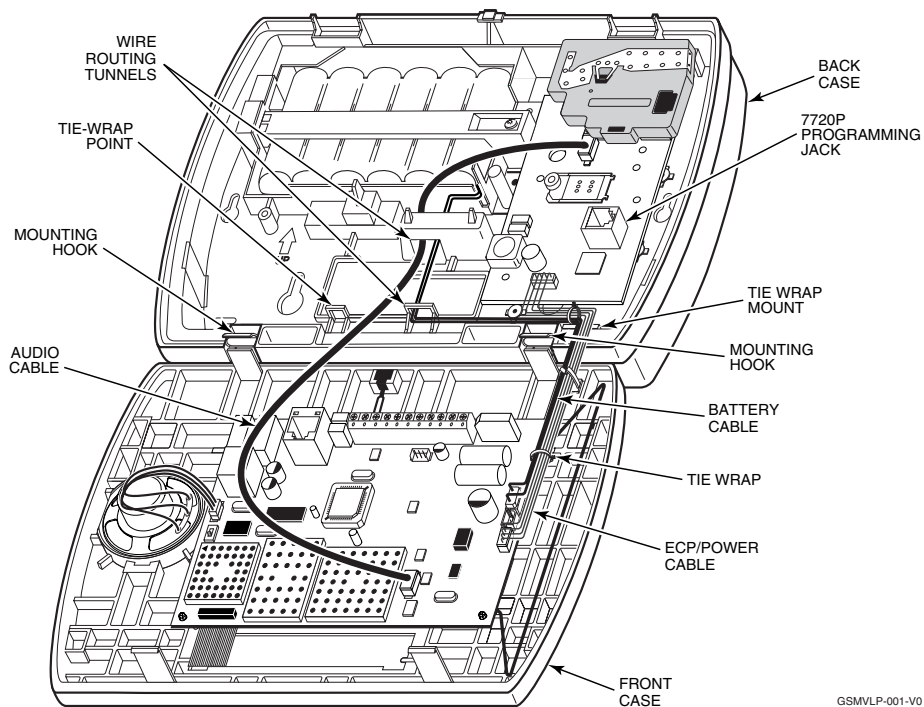

Figure 4 – GSMVLP Wiring Connections and Routing
6. Connect the provided ECP/power cable between the GSMVLP module and the PC board and route the cable as shown in Figure 4. This cable provides DC power and ground for the module and ECP connections.
For best radio performance, the wires, ECP/power cable, battery and shielded audio cables must be routed as shown in Figure 4.
7. Make the wiring connections and install the control in accordance with the appropriate Installation Instructions. Ensure that the ECP/power and battery cables are routed through the routing tunnels and/or the strain relief clip as shown in Figure 4.
8. Secure the wiring with the provided tie wraps as shown in Figure 4.
10. Connect the provided shielded audio cable between the GSMVLP module and the PC board and route the cable as shown in Figure 4.